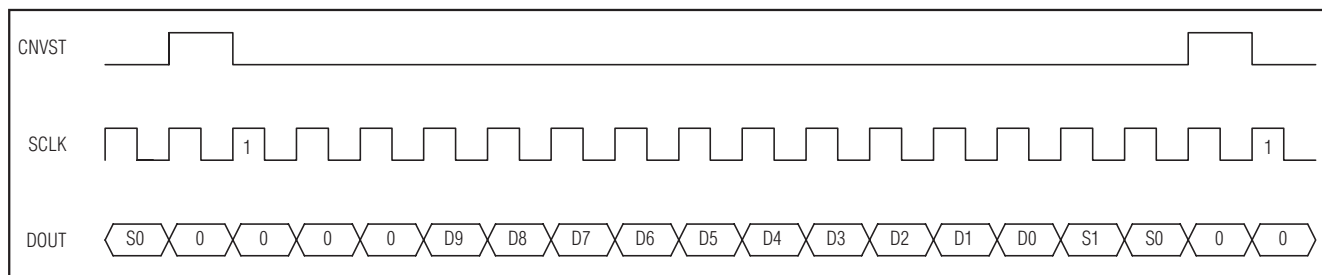

Figure 17. DSP Interface—Continuous Conversion
The MAX1072/MAX1075 can also be connected to the TMS320C54_ by using the data transmit (DX) pin to drive CNVST and the CLKX generated internally to drive SCLK. A pullup resistor is required on the CNVST signal to keep it high when DX goes high impedance and 0001hex should be written to the DXR continuously for continuous conversions. The power-down modes may be entered by writing 00FFhex to the DXR (see Figures 17 and 18).
ters should be configured for late framing (LAFR = 1) and for an active-low frame (LTFS = 1, LRFS = 1) signal. This is also the best way to enter the power-down modes by setting the word length to 8 bits (SLEN = 1001). Connect the V_L pin to the ADSP21_ _ _ supply voltage when the MAX1072/MAX1075 are operating with a supply voltage higher than the DSP supply voltage (see Figures 17 and 18).